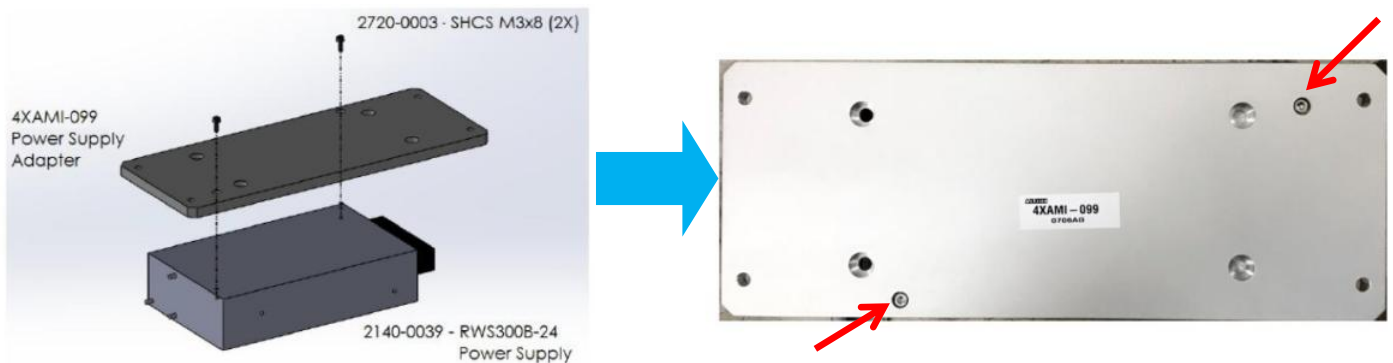

Figure 21 Trigger Board Adapter Assembly
5. Flip the Power Supply Adapter. While attach New Trigger Board Supply to Adapter (4XAMI-099), tighten below fastening kit as below Figure 21